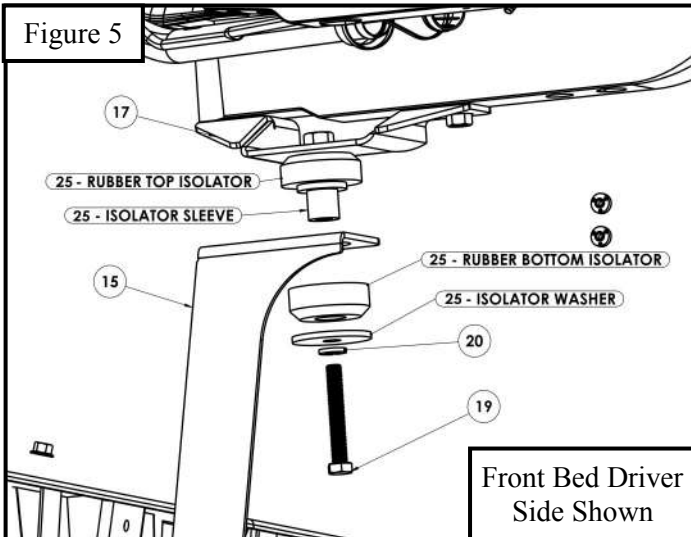

Figure 5
7. Continue by locating the isolator kit (item 25) and the isolator bracket (item 15). Loosely install the brackets with the supplied M12 hardware. **See Figure 5**